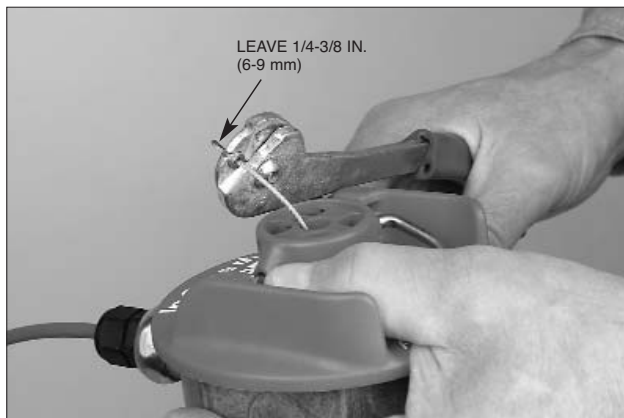

FIGURE 75
5. Thread the wire rope through stop sleeve and leave approximately 1/4-3/8 in. extended past sleeve. Crimp the stop sleeve twice using Crimping tool, National Telephone Supply Co. Nicopress Sleeve Tool (Stock No. 51-C-887). Verify the stop sleeve is secure on the wire rope. See Figure 75.